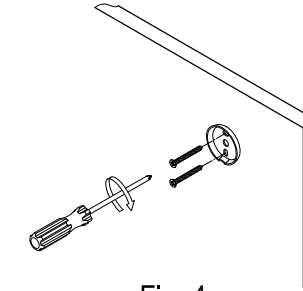

Fig. 4
- Step 6. Secure the mounting brackets (with the holes on a level) to the wall using the provided screws (fig 4).
- Step 5. Hammer in the drywall anchors until flush with the wall (fig 4).